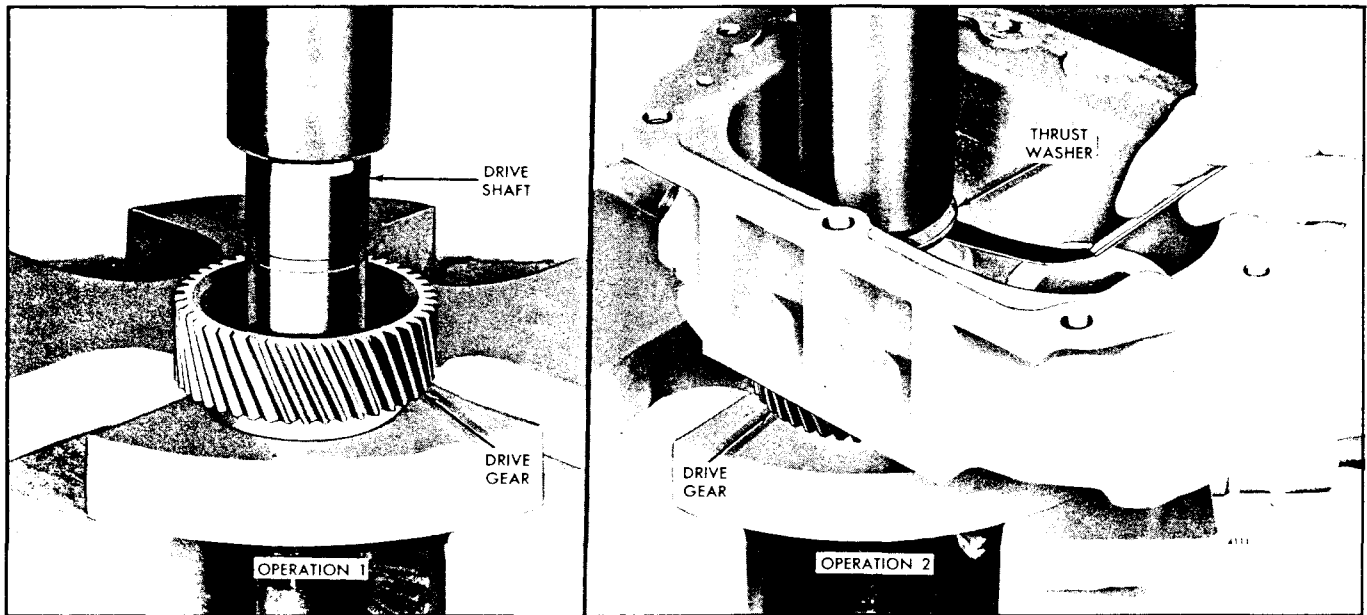

Fig. 8 - Installing Blower Drive Gear Shaft in Drive Gear
2. Place the blower drive gear and shaft on the bed of an arbor press as shown in Fig. 8, Operation 1. Then press the shaft straight into the drive gear approximately one half inch.
5. Support the blower drive gear, shaft and support on the bed of an arbor press as shown in Fig. 8, Operation 2. Then press the drive gear shaft into the drive gear until the clearance between the thrust washer and the support is .004 "-.006 " (Fig. 6).